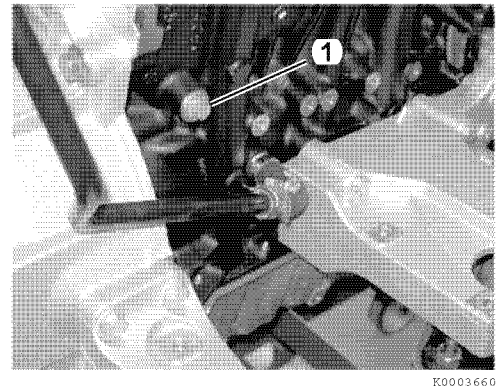

Figure 7-7
*Note: The charge air cooler has been removed for clarity of photo (**Figure 7-7**).*
4. Remove drain plug (1, **Figure 7-7**) from the engine block. Allow coolant to drain into a container of appropriate size.